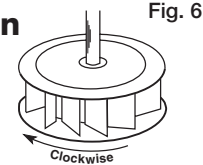

Fig. 6
Direction of wheel rotation is critical. Reversed rotation will result in poor air performance, motor overloading and possible burnout. Check wheel rotation (viewing from the shaft side) by momentarily energizing the unit. Rotation should be clockwise (CW) as shown in Fig. 6 and correspond to the rotation decal on the unit.
adjusted to allow 1/64 inch of deflection per inch of belt span. For example, a 15 inch belt span should have 15/64 inch (or about 1/4 inch) of deflection with moderate thumb pressure at mid-point between pulleys. Refer to Fig. 6. Overtightening will cause excessive bearing wear and noise. Too little tension will cause slippage at startup and uneven wear.
Unit running backwards	Correct as shown in Fig. 6.